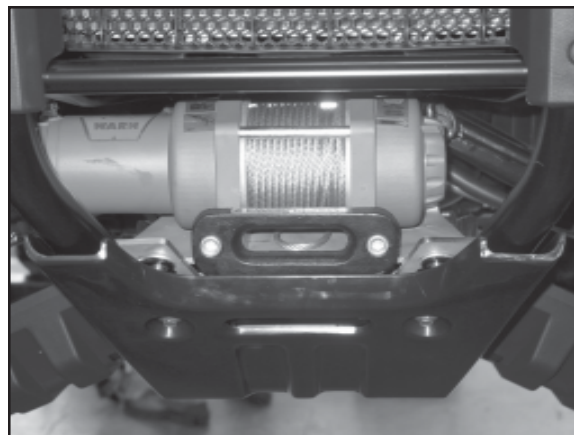

Figure 8
7. Fasten the winch onto the mounting plate with the four 5/16-18 X 1 cap screws and lock washers provided with the winch, **Figure 8**.